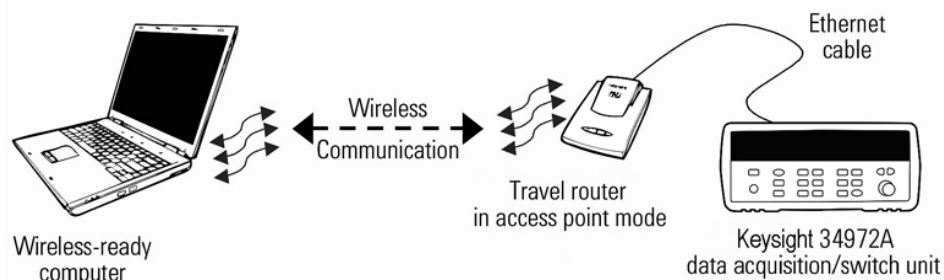

Figure 3. Using an AP Mode topology to wirelessly connect to the 34972A.
The first method uses the travel router in Access Point (AP) Mode to make a simple ad hoc wireless connection between your computer and the 34972A, as shown in Figure 3. This method is good for a 1-to-1 connection between your PC and instrument.